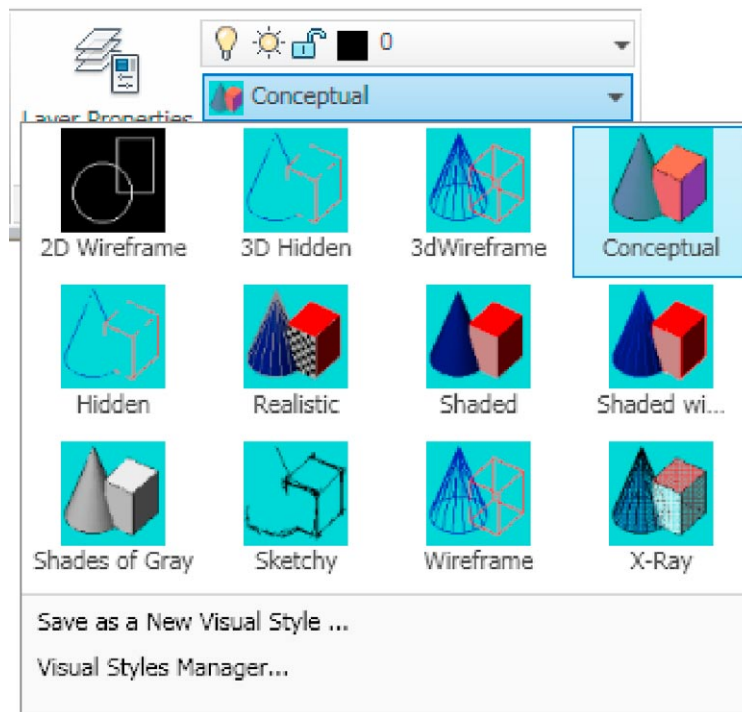

Fig. 12.8 Selecting **Conceptual** shading from **Visual Styles** in the **Layers & View** panel
The Polysolid tool (Fig. 12.8)
5. Select **Conceptual** from the **Layers & View** panel (Fig. 12.8).